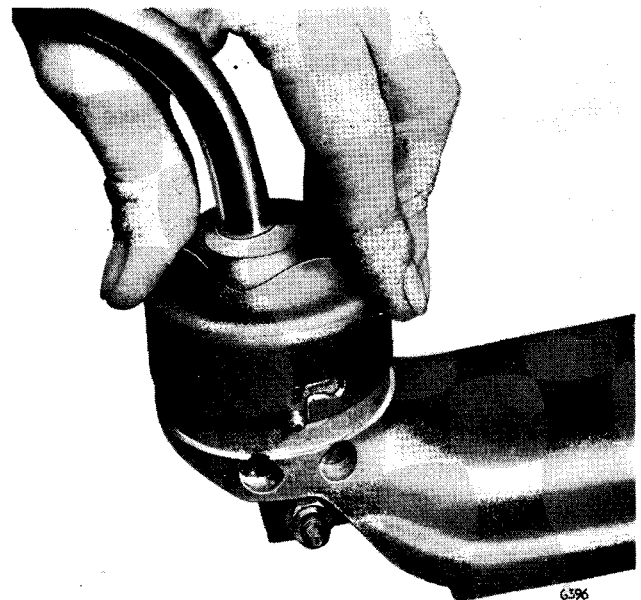
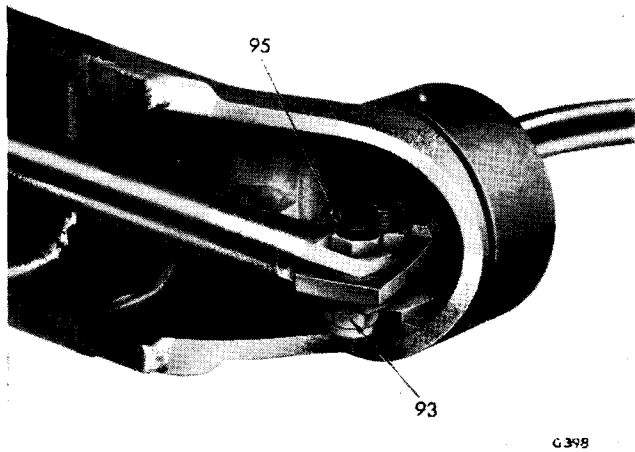

Fig. 10. Releasing the gearlever cap
Fig. 11. Gearlever attachment
Release cap (65) as shown on Fig. 10. Remove the nyloc nut (93) and bolt (95) releasing the shaft (94) from the gearlever (72) (Fig. 11).